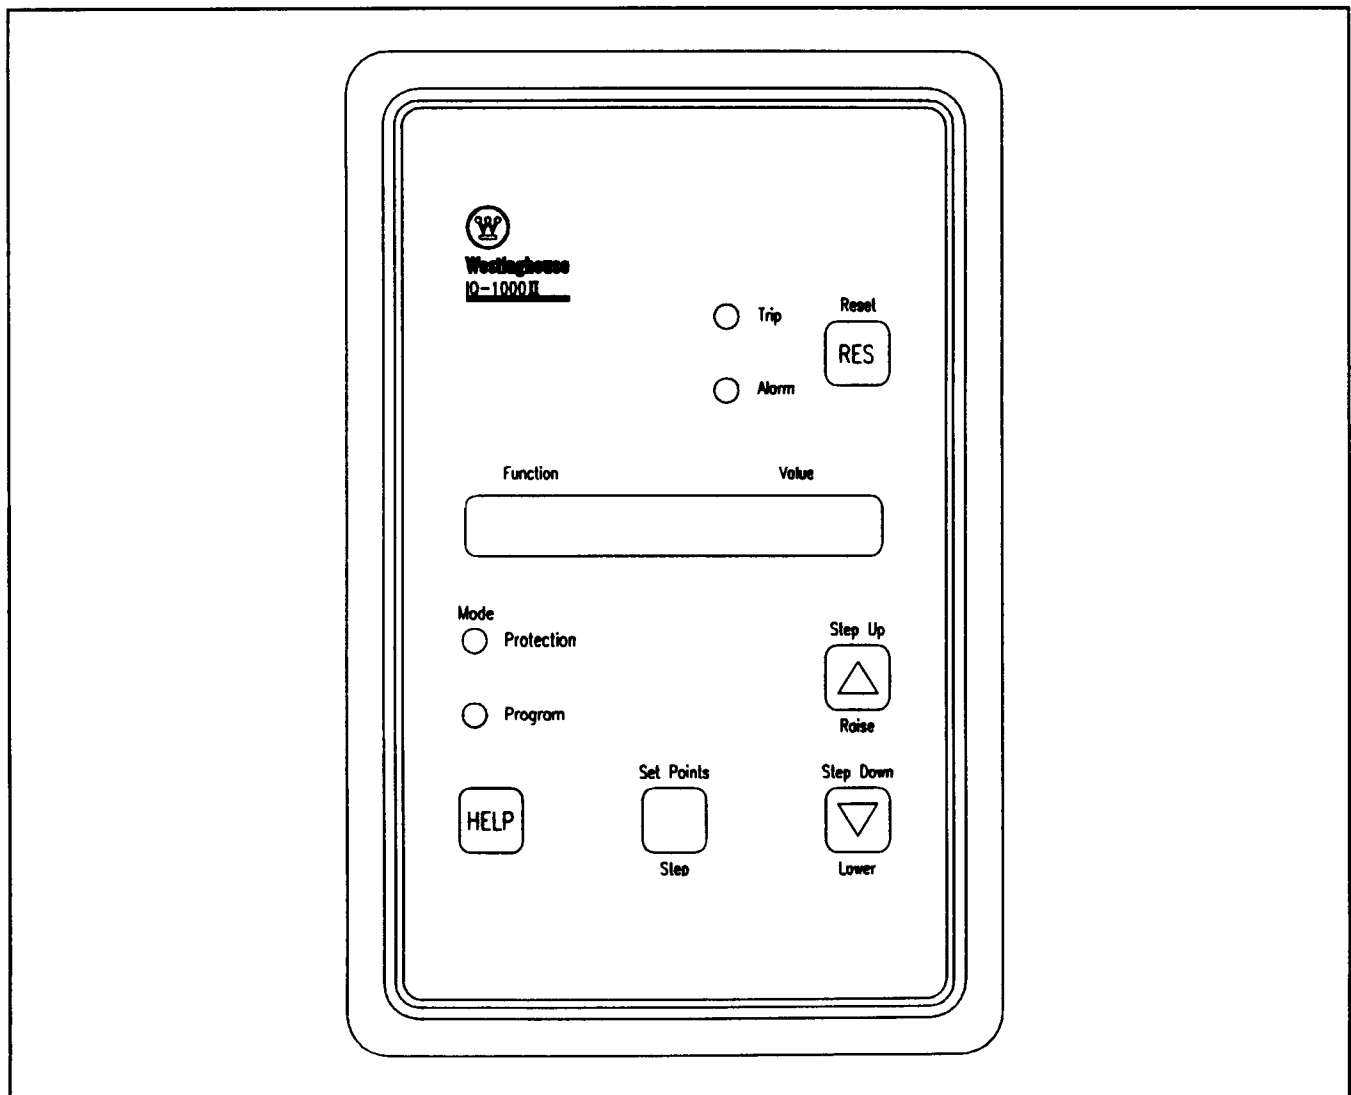

Figure 2.1 — Operator Panel
- Monitor the actual metered values on the Display Window. (Figure 2.1 shows the Operator Panel.)